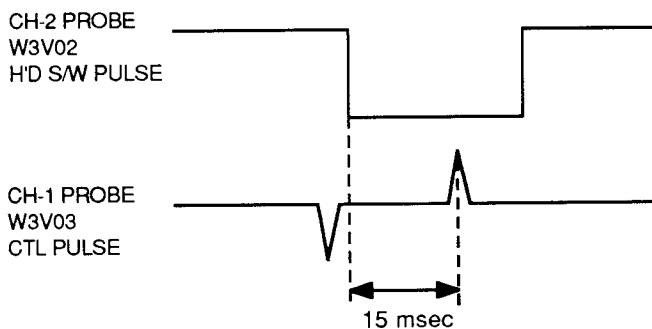

Fig. 7 Tracking Preset Adjustment
4. Set tracking preset to 15msec using the "TRK" (Tracking) button ▲/▼ of remote control. (Refer to Fig. 7 and 8)